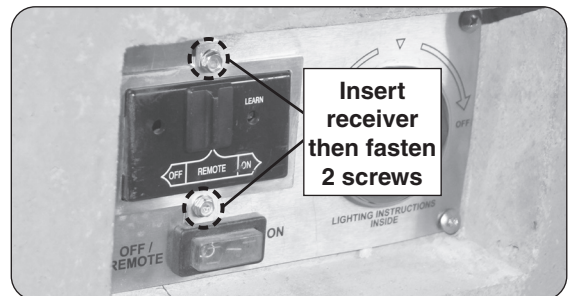

Fig. 28-3 Reinstall remote receiver assembly
3. Reinstall the remote receiver bracket assembly (see Fig. 28-3).